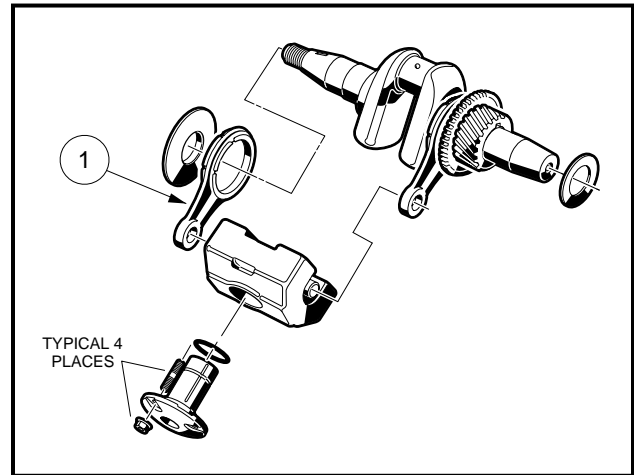

Figure 13-77 Inspect Link Rod
1. Clean and inspect the link rod (1) bearing surfaces. If the bearing surface of the small end is scored or damaged, replace the link rod. If the large end bearing is scored or damaged, the bearing must be replaced (**Figure 13-77, Page 13-36**).
- DO NOT REMOVE THE LINK ROD ON THE PTO (POWER TAKE-OFF) SIDE UNLESS LINK ROD ON THE OPPOSITE END NEEDS REPLACEMENT. THE CRANK-GEAR IS VERY TIGHTLY FITTED TO THE CRANKSHAFT SO THAT IT CAN TRANSFER ENGINE TORQUE TO THE CAMSHAFT (WHICH ALSO FUNCTIONS AS A POWER TAKE-OFF SHAFT) (**FIGURE 13-77, PAGE 13-36**). IGNORE CRANKSHAFT AND COUNTERBALANCE DISASSEMBLY (**STEPS 2 THROUGH 6, PAGE 13-35**), IF THE LINK ROD OPPOSITE OF THE PTO SIDE PASSES INSPECTION (**FIGURE 13-77, PAGE 13-36**).